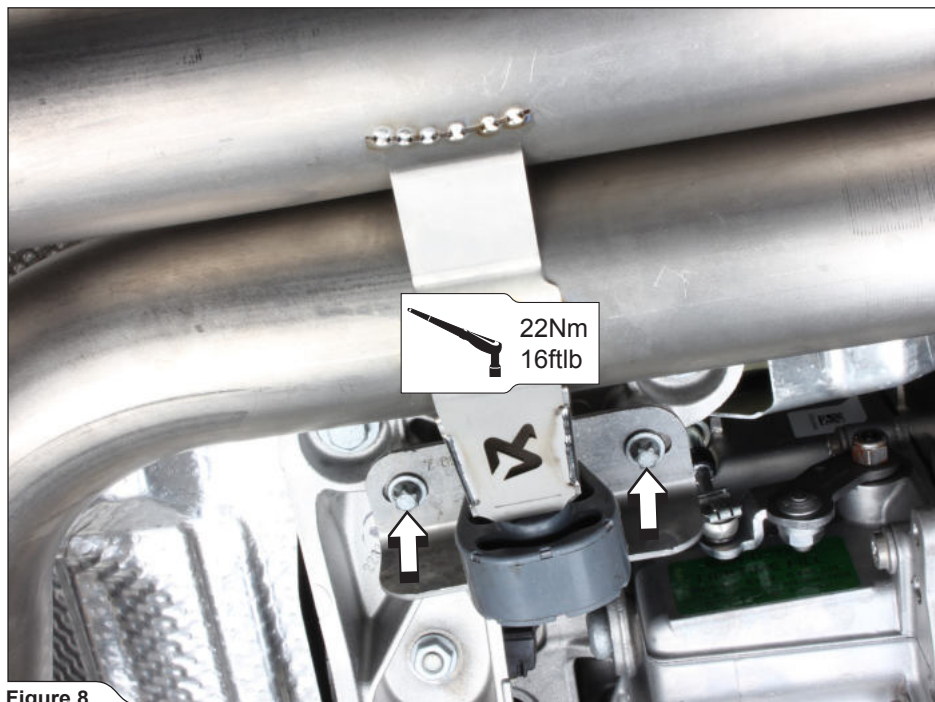

Figure 8
3. Attach the link pipes bracket onto the transmission, using stock bolts (Figure 8).